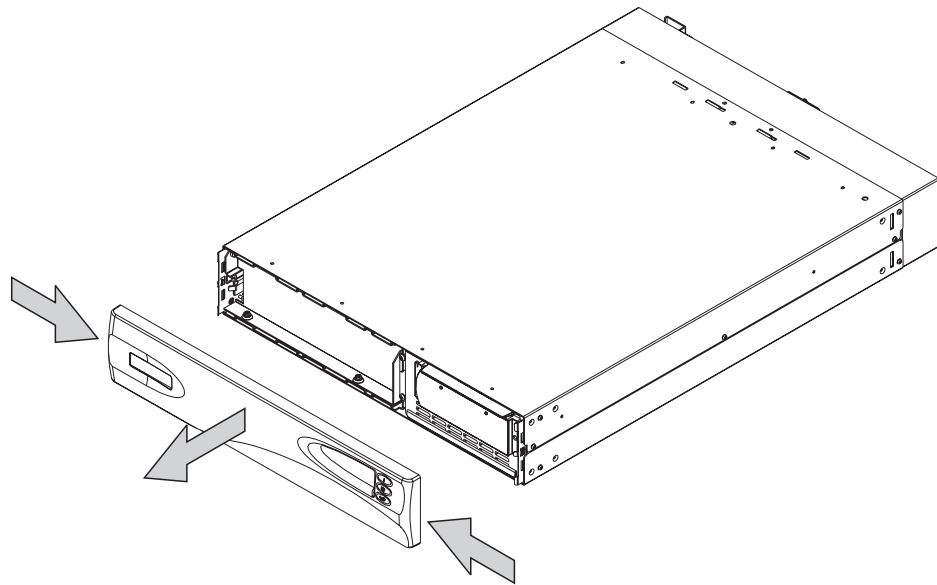

Figure 157. Removing the 2145 UPS front panel
2. Remove the front panel by pressing the sides inward, and pulling on both ends towards you (see Figure 157).